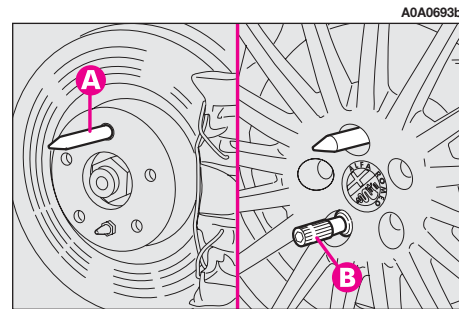

fig. 9
– Tighten the pin (**A-fig. 9**) in one of the fastening bolt holes on the wheel hub.
– Remove the pin (**A-fig. 9**) and tighten the last fastening bolt.